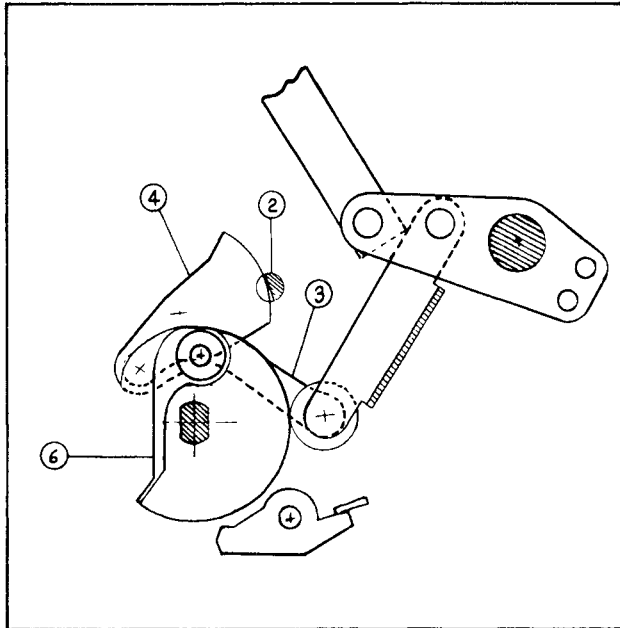
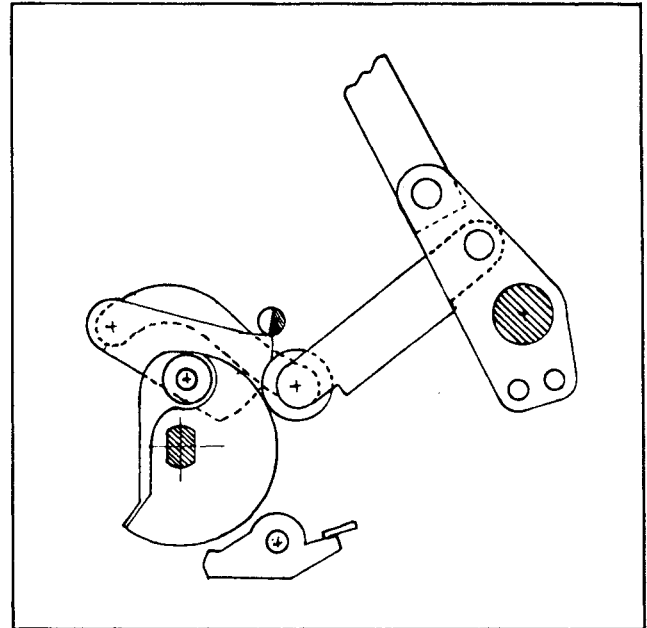

Fig. 26 *Stored-Energy Mechanism: Breaker Open, Springs Discharged*
Fig. 28 *Stored-Energy Mechanism: Breaker Closed, Springs Discharged*
It can be seen in Figs. 26, 27, 28 that the main drive link roller is constrained to move in a circular path by the roller constraining link (3) which pivots about a pin on the trip latch (4). The trip latch is restrained from rotating by the trip shaft (2). When the trip shaft is rotated, Fig. 28 the trip latch is released, therefore no restraint is exhibited on the main drive link. Under this condition the breaker, if closed, will open. With the breaker open, no closing force can be transmitted to the pole shaft and hence the protector will not close.